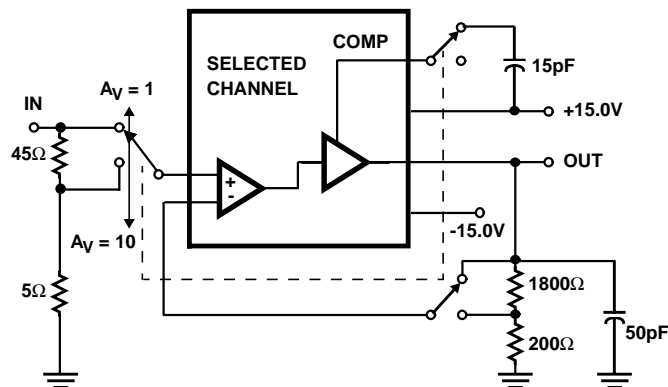

FIGURE 13. SLEW RATE AND TRANSIENT RESPONSE
- See Figure 13 for test circuit.